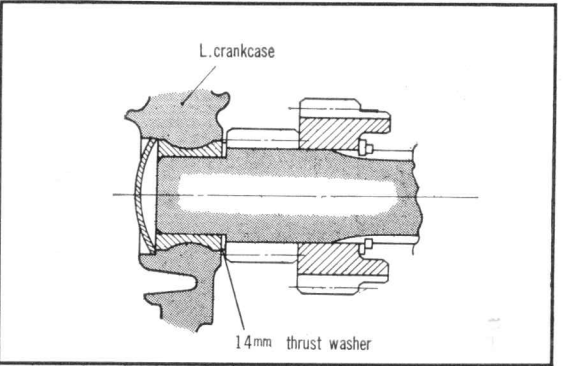

Figure 3-86. Thrust washer C50, C50M, C65, C65M
- a. Check to make sure the 13.5mm thrust washer is installed on the countershaft and the 14mm thrust washer is installed on the main shaft on C50, C50M, C65 and C65M. (Fig. 3-86)